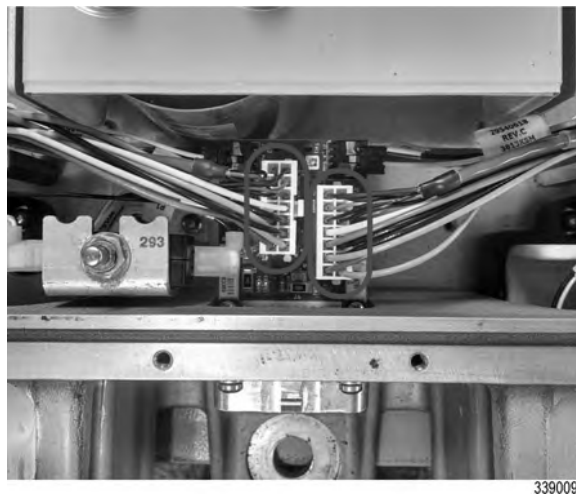

Figure 12. 14-Way White Connector Installation
8. Connect the two (2) 14-way white connectors to the signal interface card (refer to Figure 12). Ensure the clips on the connectors are fully seated to prevent the connectors from coming loose.